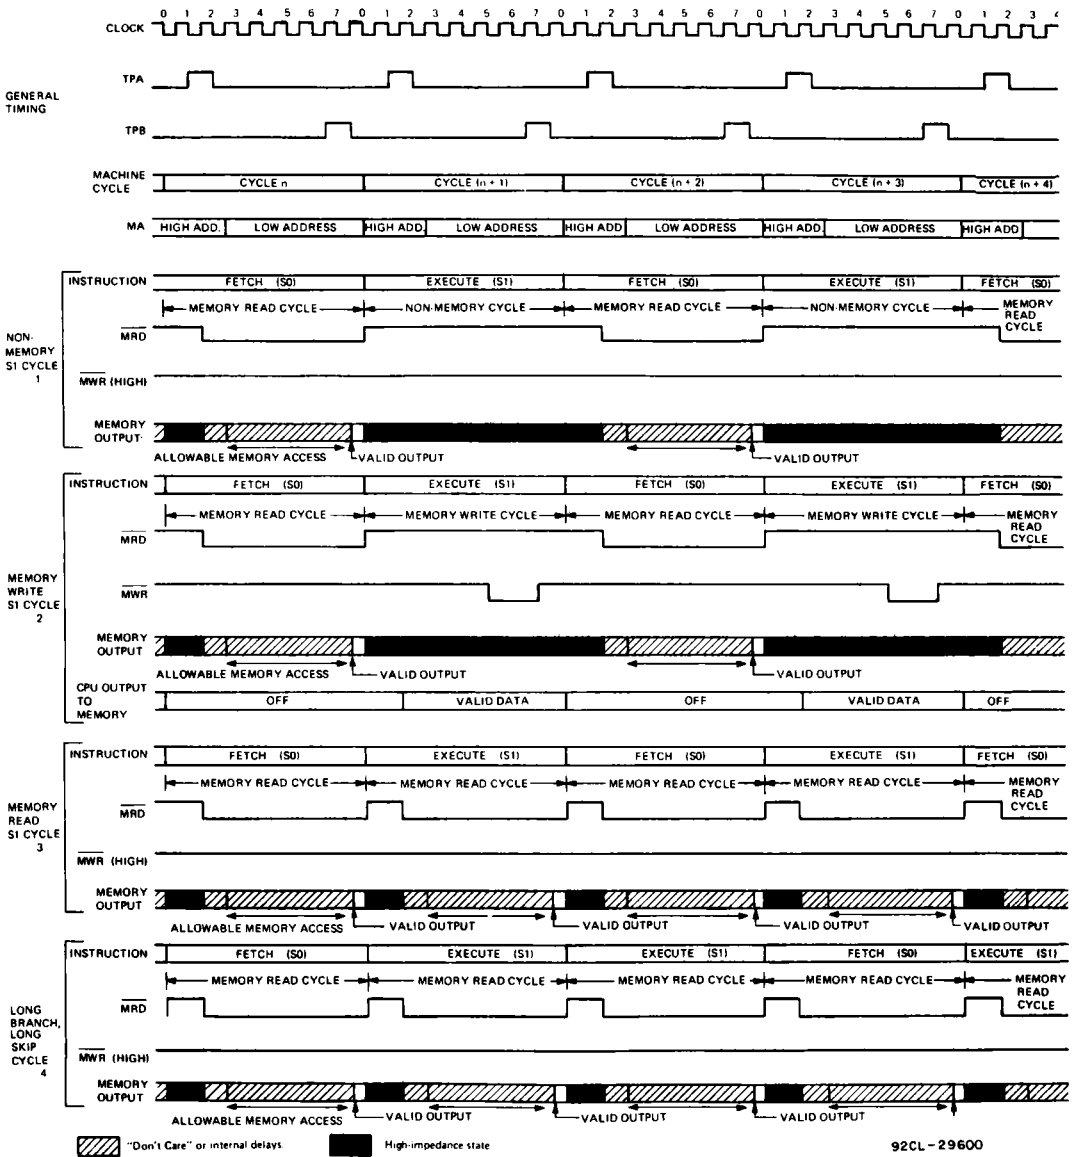

Fig. 16- Timing diagram for machine cycle type Nos. 1, 2, 3, and 4 (propagation delays not shown).
- G. Numbers refer to machine cycles types — refer to timing diagrams, Figs. 16 through 20.